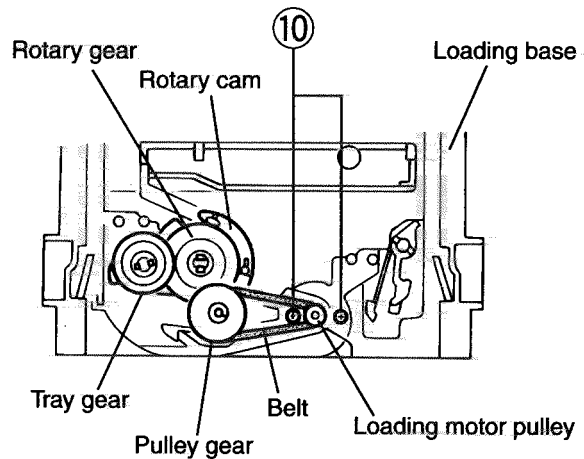

Fig. 11
■ Removing the Parts for Loading (See Fig.11)
■ Removing the Loading Motor Board (See Fig.11 and 12)
3. Remove the belt from the loading motor pulley on top of the loading base, then the two screws ⑩ attaching the loading motor.
4. Reverse the loading base, remove the screw ⑪ attaching the loading motor board and release tab A. Lift the loading motor board in the direction of the arrow to release tab B.
(See Fig.11 and 12)